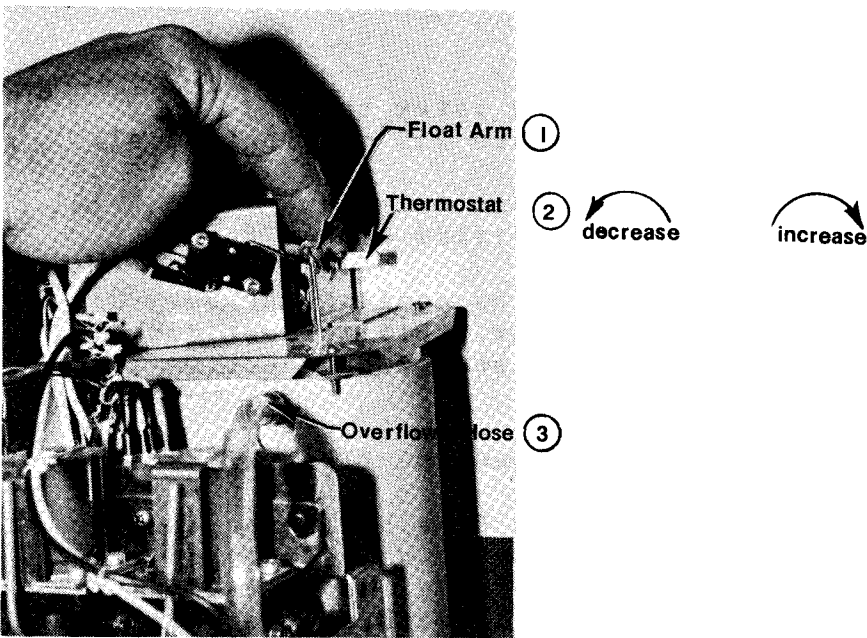

Fig.15
Water Level Measurement (SEE FIGURE 15)
- Hold down the float arm until the tank overflows (FIGURE 15). This can be observed by watching overflow hose (Item 3).